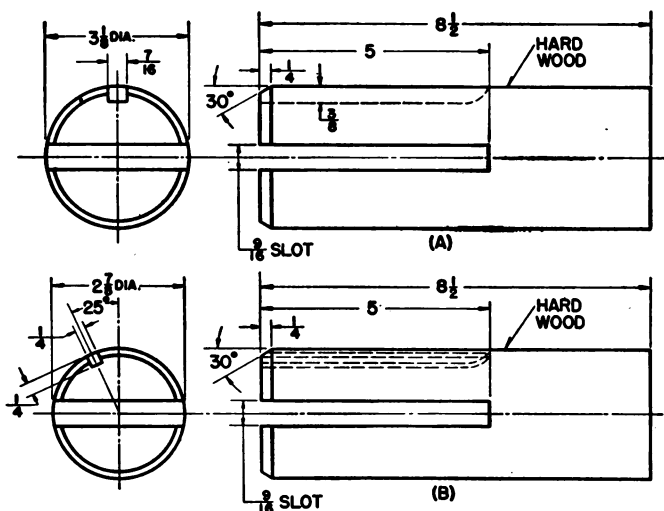

Figure 61.—Wooden plugs for removing venturi from carburetors NA-R9B and NA-R9C2.
a wooden plug made somewhat as shown in figure 61, the plug for a NA-R9B carburetor being shown in view (A), and that for the NA-R9C2 in view (B).